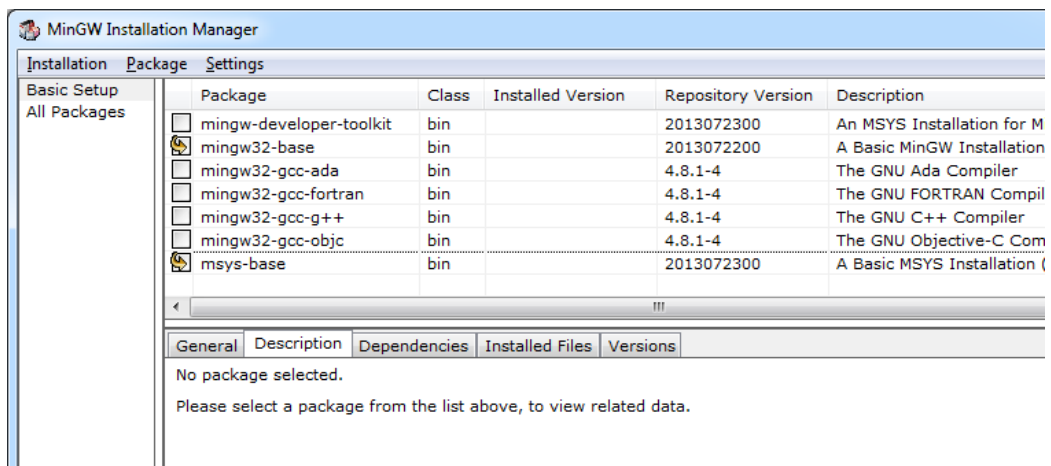

Figure 13 - MinGW Installation Manager
- When the installation manager window appears, as shown in Figure 13, choose `mingw32-base` and `msys-base` in the “Basic Setup” section.